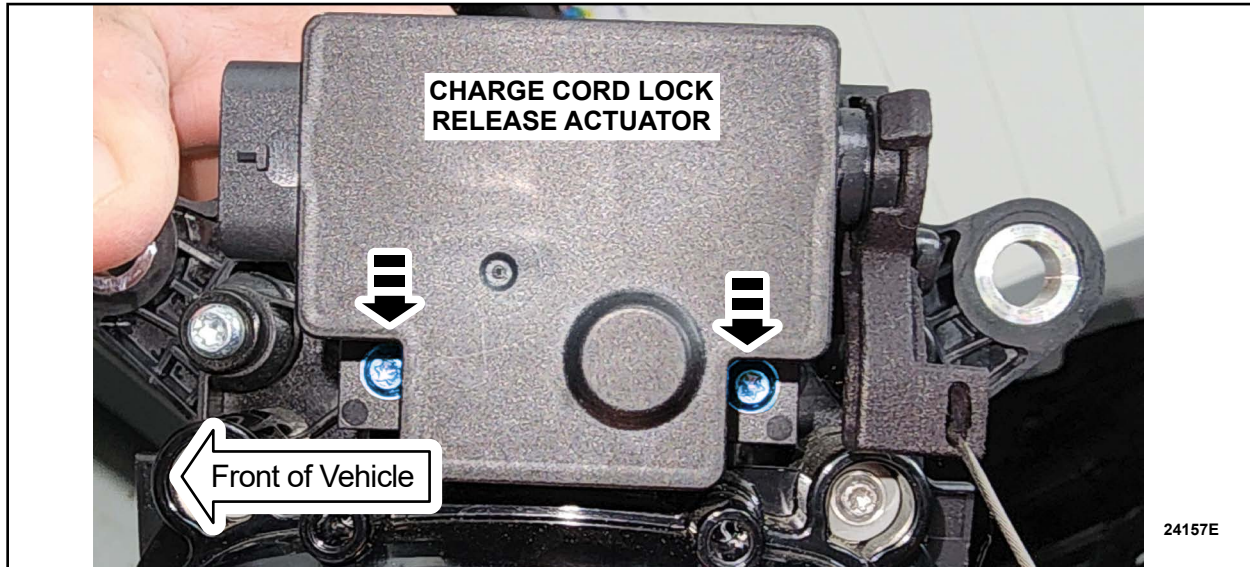

FIGURE 5
6. Remove the bolts and the charge cord lock release actuator. See Figure 5.